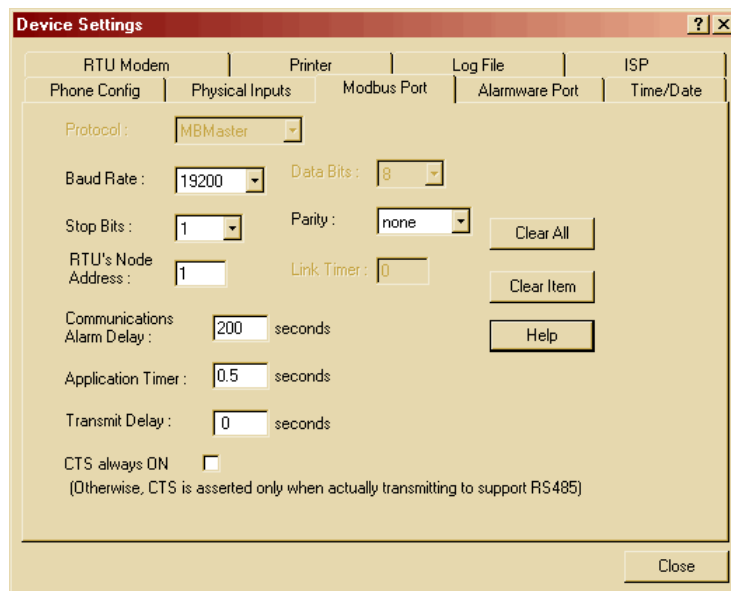

Figure 14: Device Settings, Modbus Port
11. Select the **Modbus Port** tab and configure it as shown. The Mod I/O in this example was set as follows: baud rate = **19200**, stop bits = **1**, and parity = **none**. Enter these values in the Dialog as shown in Figure 14.